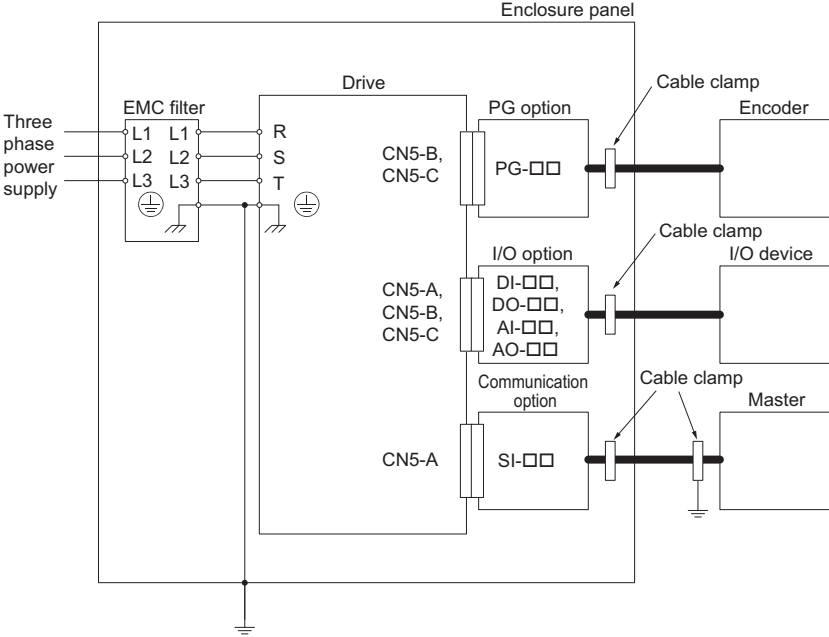

Figure 24 Option Installation for CE Compliance (PG-□□, DI-□□, DO-□□, AI-□□, AO-□□, SI-□□)
2. Keep wiring as short as possible and ground the largest possible surface area of the shield to the metal panel according to Figure 24.